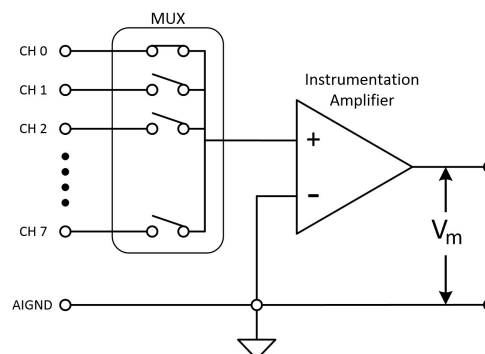

Figure 4. A GRSE or RSE system's common reference channel is connected to the instrument ground.
Single-ended configurations are commonly the default configuration for instruments. They differ from differential configurations because only one analog input channel is required for the measurement. All channels on the instrument share the negative input to the instrumentation amplifier as the common reference, which can be seen in Figure 4. Because single-ended configurations use only one input, they can take twice the number of measurements compared to a differential configuration system with the same number of physical channels. On the other hand, this leaves single-ended measurements susceptible to ground loops, which can decrease the accuracy of the measurements.
- **Ground RSE (GRSE) or RSE systems** have the common reference channel connected to the instrument ground. For example, the RSE system shown in Figure 4, the instrument ground channel is labeled AI GND.